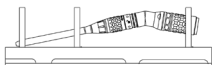

Figure 4
**Warning:** Consult G1 Cleaning and Sterilization Basket Loading Diagram for validated loading configurations. Angled attachments must be loaded in the correct orientation as shown in Figure 4.